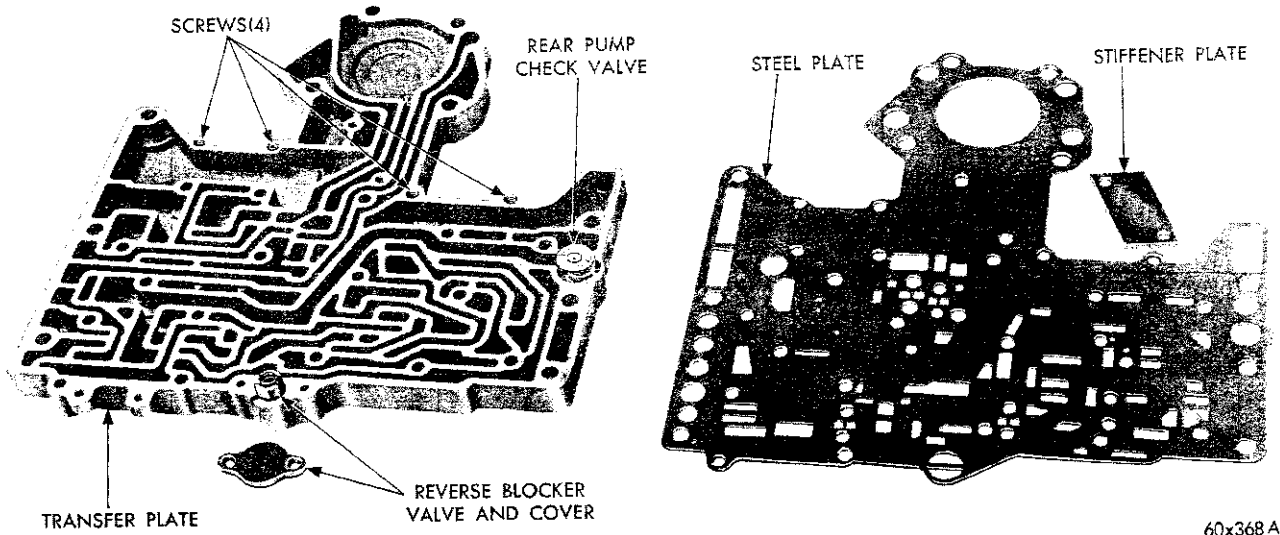

Fig. 55—Transfer and Steel Separator Plate Assembly (Disassembled View)
the steel plate to the transfer plate, and carefully lift off the steel plate (Fig. 55). Remove the rear pump check valve and spring.
(1) Place the rear pump check valve and spring in the transfer plate (Fig. 55). Position the steel plate on the transfer plate, hold the rear pump check valve in its bore with a thin steel scale, and install four steel plate to transfer plate retaining screws. Make sure bolt holes in the steel plate and transfer plate are aligned, then tighten the screws evenly to 28 inch-pounds torque. Inspect the rear pump check valve for free movement in the transfer plate. Install the stiffener plate and tighten retaining screws to 28 inch-pounds torque.
(2) Turn transfer plate over and install the reverse blocker valve spring and valve (Fig. 55). Rotate the valve until it seats through the steel plate. Hold the valve down and install blocker valve cover plate. Tighten the two retaining screws to 28 inch-pounds torque.